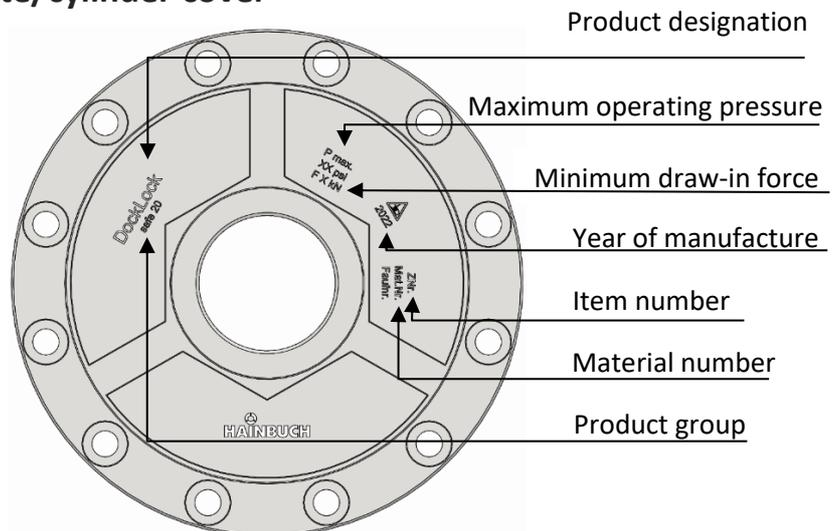

Figure 1 – Information on the cylinder cover
⚠ WARNING Breakage of hoses/connections when the maximum operating pressure is exceeded (see Figure 1). Risk of injury, especially to limbs/face and risk of material damage.
Figure 1 shows all the information on the cassette/cylinder cover that is used to uniquely identify and allocate a cassette or a cylinder.
**WARNING** Breakage of hoses/connections when the maximum operating pressure is exceeded (see Figure 1). Risk of injury, especially to limbs/face and risk of material damage.